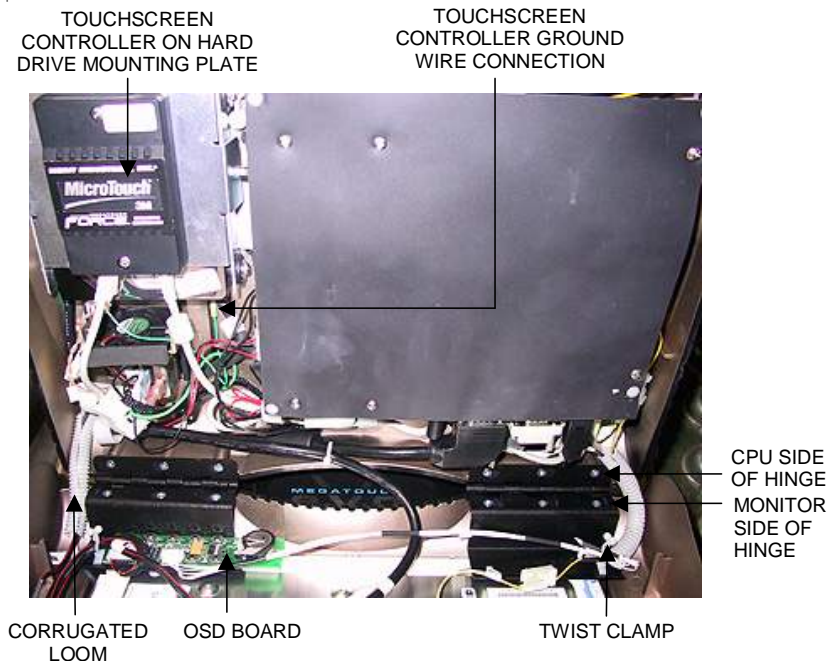

FIGURE 4 – CPU SECTION OF FORCE COUNTERTOP GAME
9. Remove any wires connected to the touchscreen controller from wire ties, clamps and/or the corrugated loom alongside the bezel edge. See Figure 4.
8. Remove any wires connected to the touchscreen controller from wire ties, clamps and/or the corrugated loom alongside the bezel edge. See Figure 4.
11. **If you are replacing an existing Foreseesons monitor:** Loosen the 6 screws on the monitor side of the hinges (3 screws per hinge) in order to raise the hinges and allow enough room to remove the monitor. See Figure 4.
If you are replacing an existing Samsung or Kortek monitor: Free the hinges from the CPU section and bezel of the game by removing all 12 screws found on the 2 hinges (6 screws per hinge). Also remove the twist clamps from the hinges. See Figure 4.